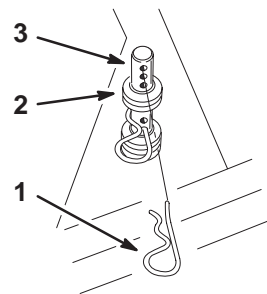

Figure 14
3. On the opposite side of the muffler, install unused spacers onto front and rear height-of-cut pins and insert the hairpin cotter pins (Fig. 14).